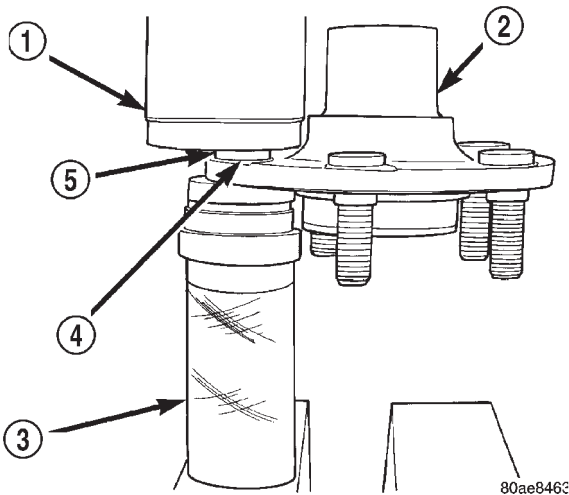

Fig. 41 Wheel Mounting Stud Installation
(4) Place the previously removed wheel mounting stud back into the hub flange. Place the hub in the arbor press supported by Special Tool C-4698-1 (Fig. 41). Press wheel mounting stud into hub flange until it is fully seated against the back side on the hub flange. Remove the hub from the press.